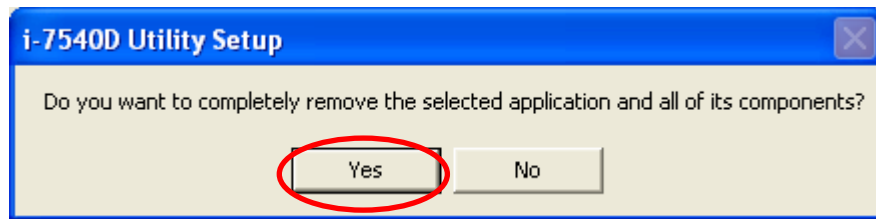

Figure 3-11: Click the button “Yes” to remove the software
Step 5: Click the button “Yes” to remove the software as shown in figure 3-11.